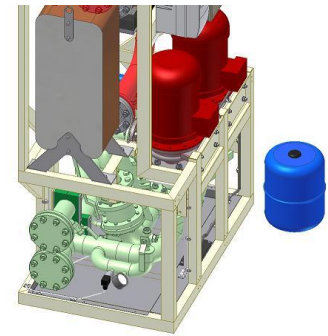

Figure 6.2-4
4. Remove the expansion vessel by rotating it counter clockwise (Figure 6.2-4).